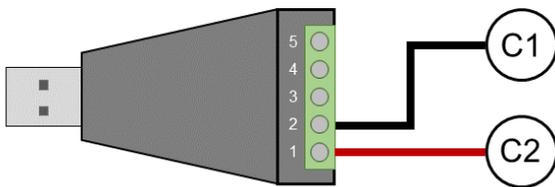

Figure 1a. USB-to-Serial adapter connection diagram.
3. The USB-to-Serial adapter is connected to the outdoor unit communication terminals as shown in *Figure 1a* and *1b*.
- 6.2. Connect terminal 1 on the adapter to communication terminal C2. (*Fig. 1a*)
- 6.3. Connect terminal 2 on the adapter to communication terminal C1 (*Fig. 1a*)